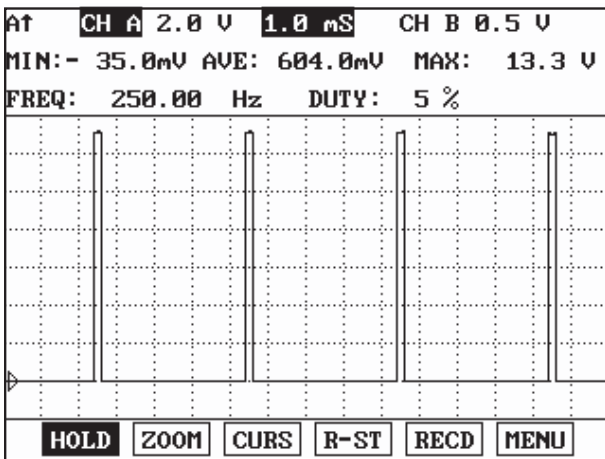

Fig.1
- Fig.1) Waveform of Throttle control actuator at wide open(at idle) : At IG KEY "ON", ENGINE "ON", 5% duty is outputted continuously.